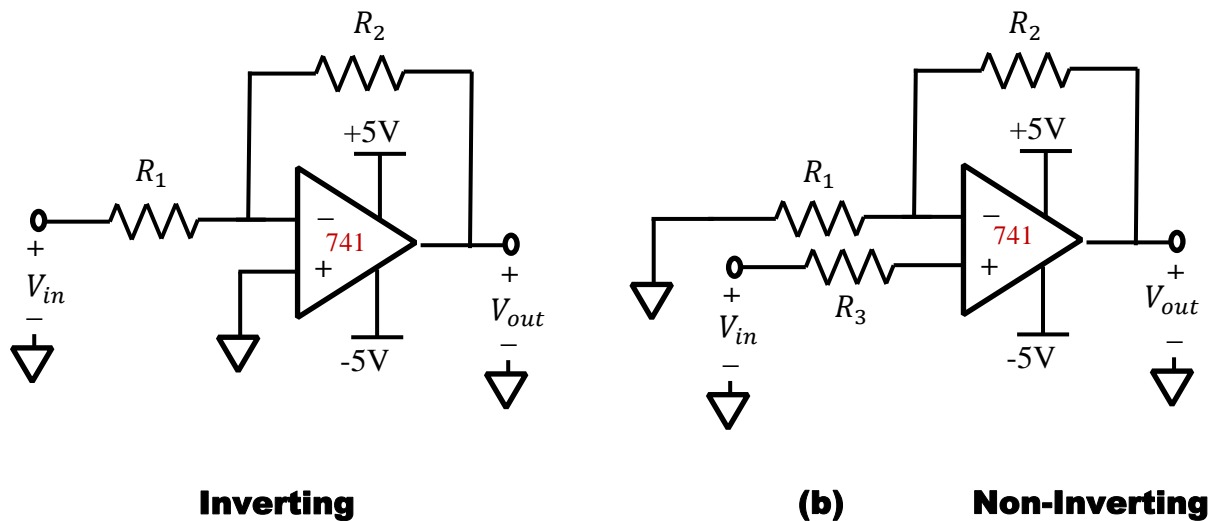

Figure 4.13 – Op-amp based amplifier circuits.
Before we send the detector output voltage to a comparator, it will be helpful to amplify this signal so that there is a substantial difference between the high voltage and the low voltage. Build the inverting amplifier circuit shown in Figure 4.13(a). You can use the +/-5V output on the PMD as the supply voltages. Choose your resistor values so that the circuit provides as much amplification as possible without danger of saturating. Remember, the output of the detector circuit from Task 1 will be the input to this amplifier. Which resistor values did you choose and why? Provide adequate reasoning in your lab report.
Now repeat this task for the non-inverting amplifier configuration shown in Figure 4.13(b). Again, you should justify the resistor values you have chosen and provide a plot of measured V_{out} vs. V_{in} . Which amplifier circuit would couple better with the detector circuit of Task 1? Comment on this in your lab report.
- Provide a plot of measured V_{out} vs. V_{in} for both amplification circuits in Figure 4.13. Be sure to indicate what your saturation voltages are.